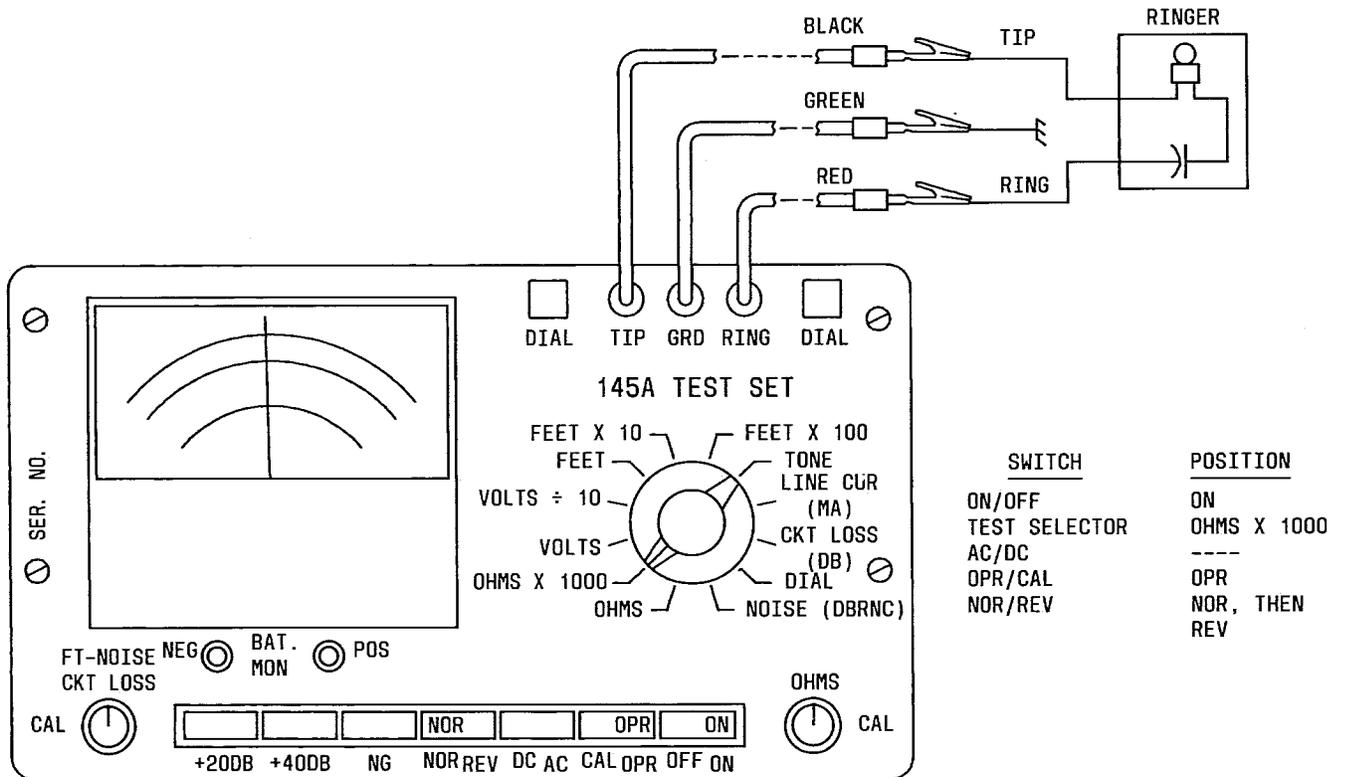

Fig. 5—Detection of Ringer
4.02 Detection of Ringer (Fig. 5): This test is used to determine the presence of one or more ringers on a line or drop wire. The following steps must be used when making this test: